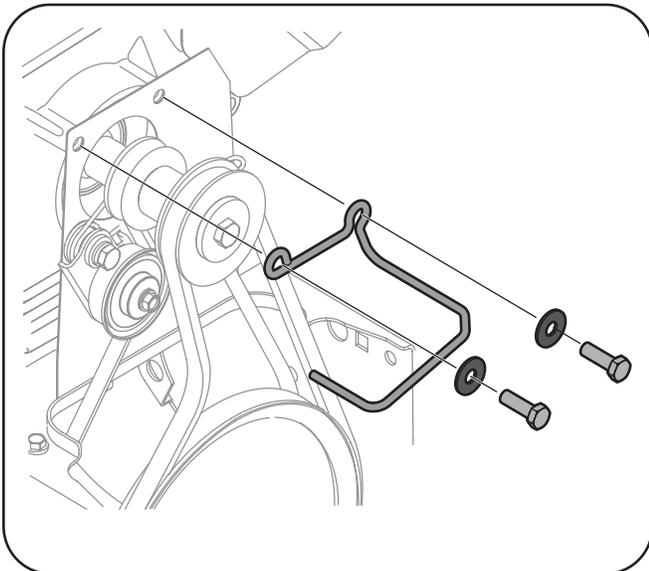

Figure 7-2
3. If your unit is equipped with a wire belt guide, washers and hex bolts shown in Figure 7-2 loosen and remove them.